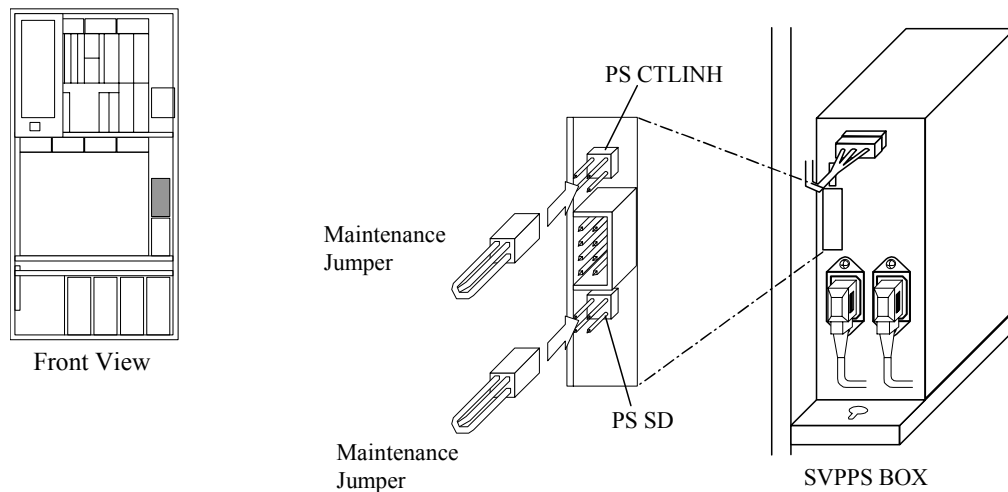

Fig. T7.1-3 Jumper settings of SVPPS BOX
- a. Remove the maintenance jumper of the PS SD on the SVPPS BOX. (See Fig. T7.1-3.)
Insert the maintenance jumper into the PS CTLINH on the SVPPS BOX. (See Fig. T7.1-3.)
Insert the maintenance jumper into PS SD on the SVPPS BOX. (See Fig. T7.1-3 [REP03-470].)